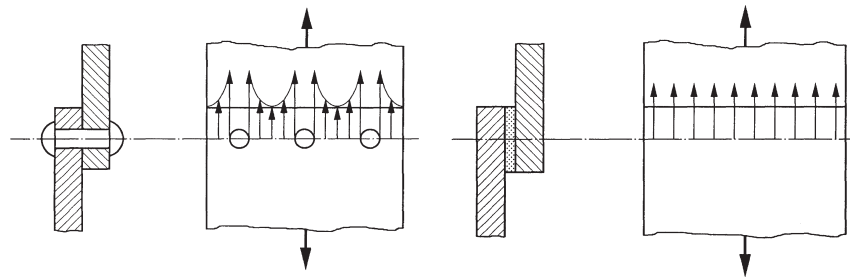

Figure 1.2 Power transmission in riveted (screwed) and bonded joints.
- The adherends are not weakened by bores as it is the case, for example, when screwing and riveting. Thus power transmission is surface-related instead of spot-related (Figure 1.2).
- Compared to riveted or screwed connections homogeneous stress distribution when stress-loading (Figure 1.2).